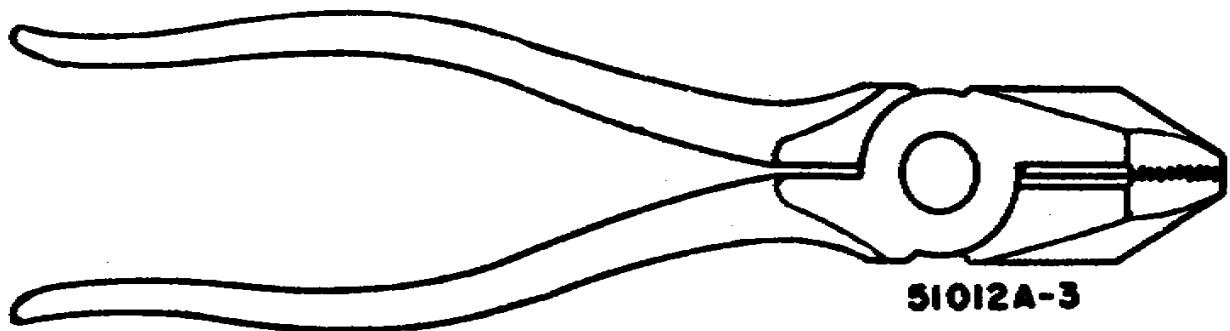

Figure 2. Side cutting pliers.
- (2) Side cutting pliers (fig. 2). A tool of many uses, it is one that you can use to grip things, cut wires, and strip insulation. The roughed-up gripping surface will hold a small object firmly. With this tool, you can cut most kinds of wire as thick as a coat hanger wire. The heel, on the handle side of the pivot, can be used for gently crushing insulation on small-diameter wire. Then the crushed insulation can be removed by pulling the wire through one of the holes on the jaw or cutter side.